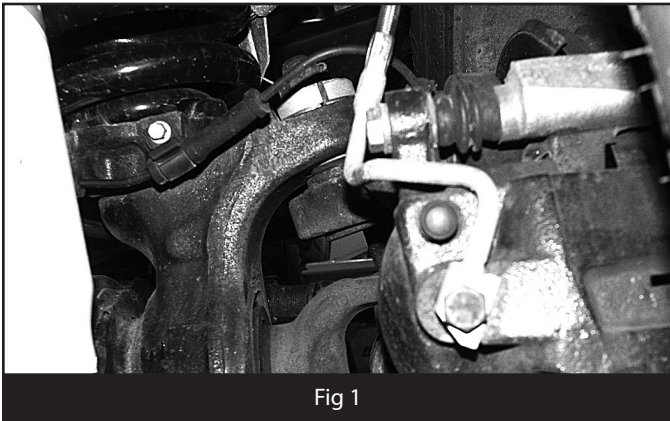

Fig 1
4. Install a new crush washer on the OE banjo bolt and install the bolt in the end of the new stainless steel brake line followed by a second crush washer. Attach the entire assembly to the caliper and torque the bolt to 20 ft-lbs. (Figure 1)